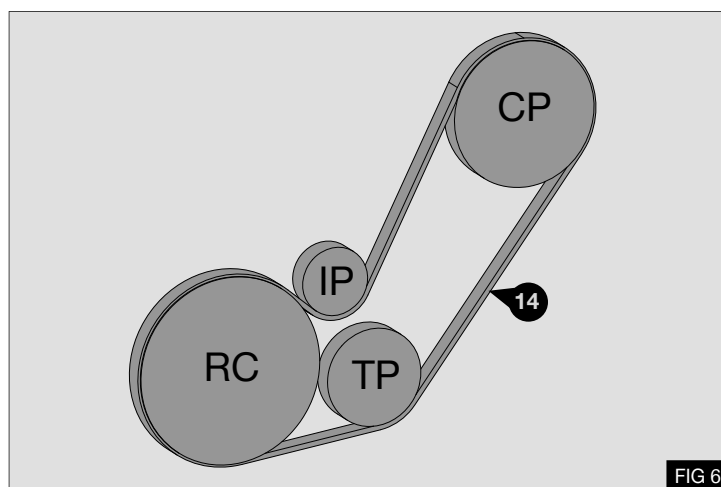

FIG 6
1. Fit supplied poly groove drive belt (14) - Fig 6